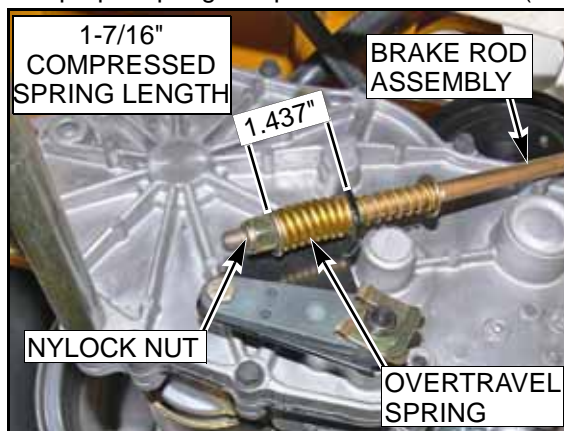

FIG. 9
3. Measure the park brake spring. It should be compressed to 1-7/16". If it is not, adjust the nylock nut until the proper spring compression is achieved (FIG. 9).